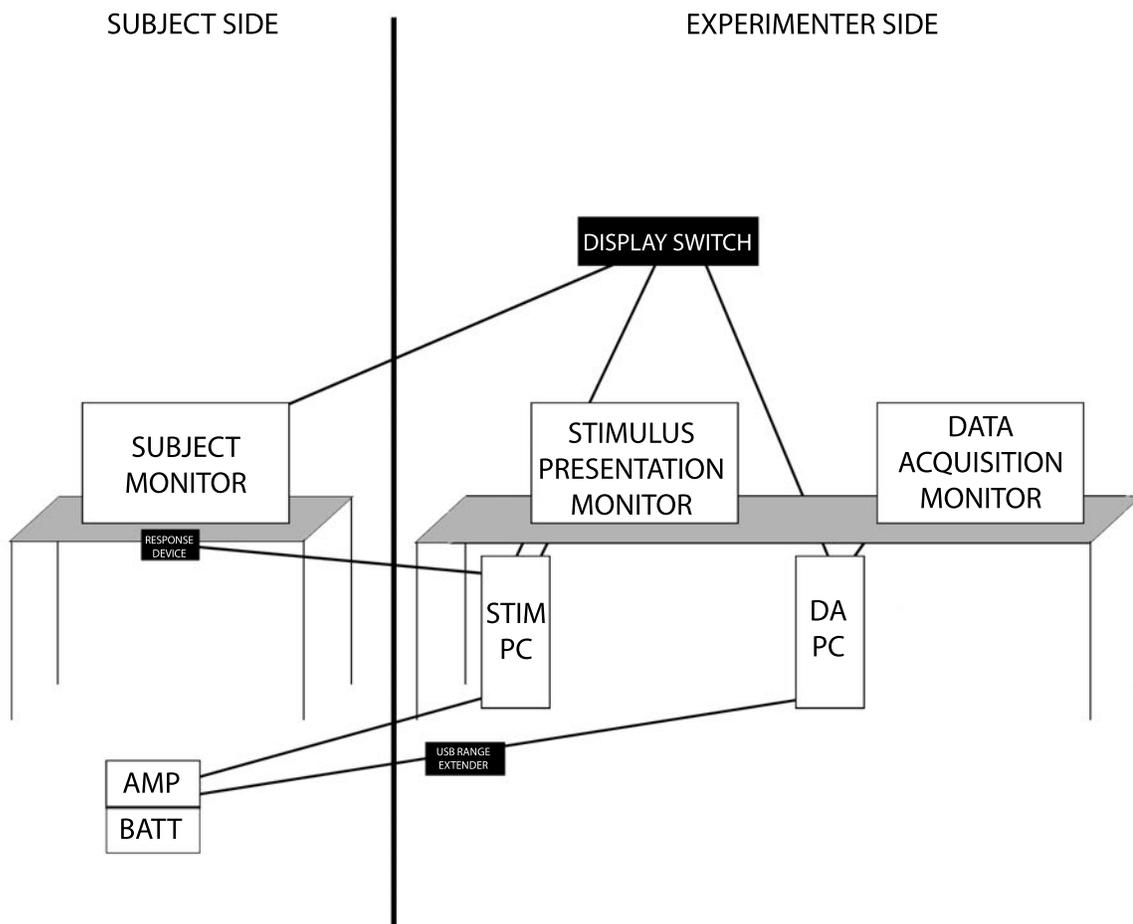

Figure 13. Depiction of the computer, monitor, and amplifier configurations and connections.
2. Optimal equipment set up: On the experimenter side of the testing space, there should be one PC and monitor for stimulus presentation and one PC and monitor for data acquisition. On the subject side of the testing space, an identical monitor should be placed, connected to both the stimulus presentation computer and the data acquisition computer through a DisplayPort switch (see Figure 13). This allows the subject monitor to display either the task (when switched to the stimulus presentation PC) or the EEG (when switched to the data acquisition PC). See Figure 13 for a complete diagram. The